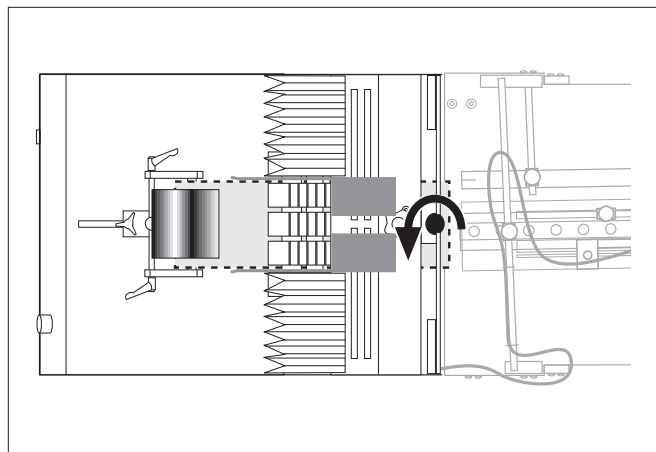

Figure 5. Adjust Gate Assembly for Correct Gap
3. Adjust the knob on the gate assembly until the envelope has the desired drag. Turn the knob clockwise to increase clearance or counterclockwise to decrease clearance (Figure 5).